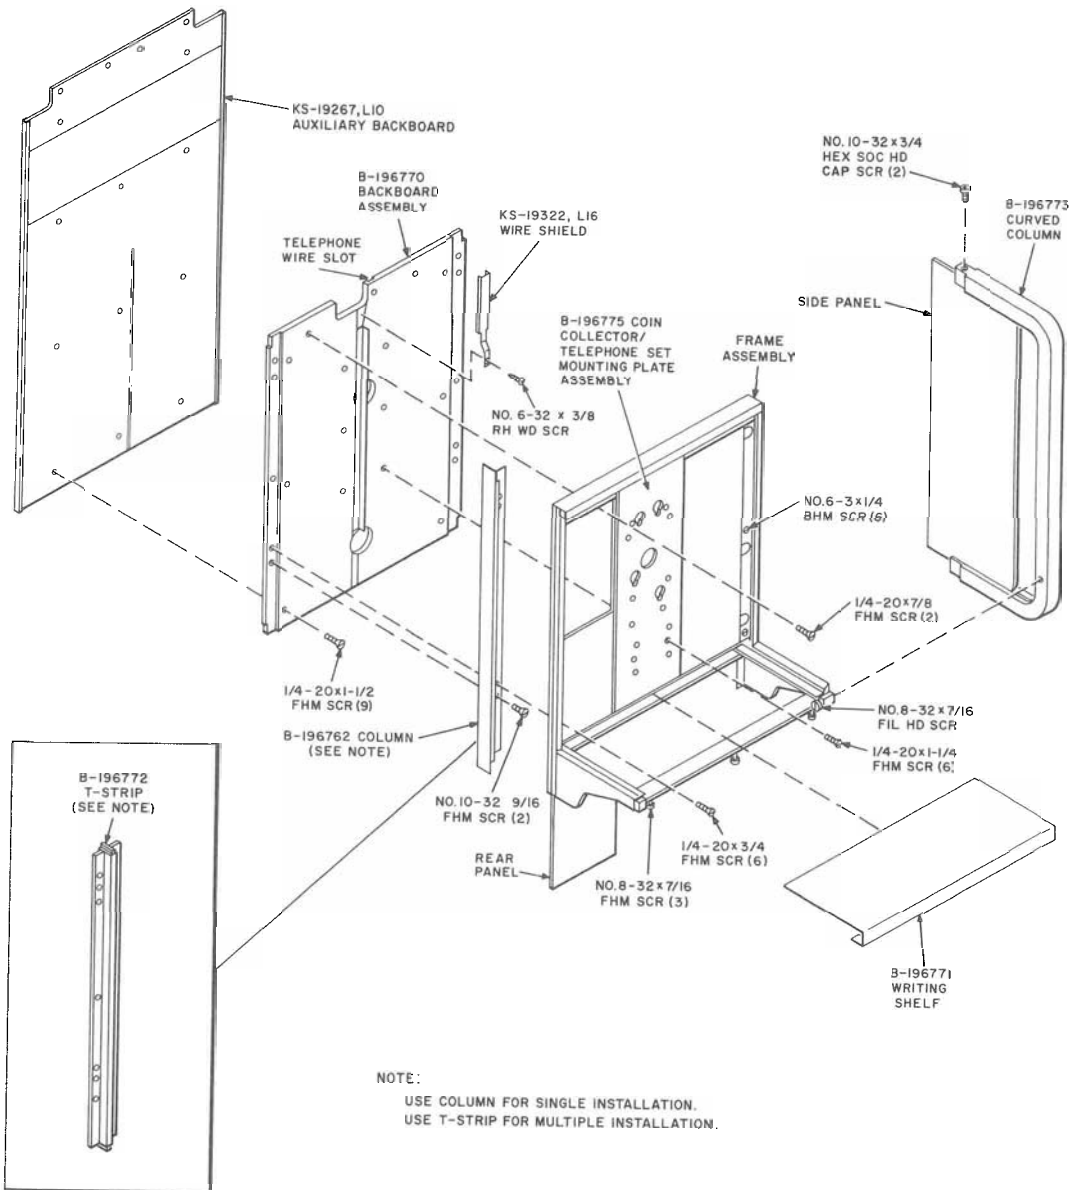

Fig. 7—Assembly of KS-19267 Shelf
3.03 Secure B-196770 backboard assembly to List 10 auxiliary backboard, if applicable, using nine 1/4-20 by 1-1/2 FHM screws (Fig. 7).
3.04 Install KS-19322 sign if applicable and cover exposed electric power cord between sign and shelf with KS-19322, List 16 wire shield (Fig. 7).
Where multiple units are installed, a B-196772 T-strip will be used to join two shelves together. This T-strip will replace the side column. T-strips are furnished as part of KS-19267, List 2 and List 4 shelf assemblies (Fig. 7).
(b) Remove the following per Fig. 7:
- 4.06** Refer to Fig. 7, 8, and 9 and Tables A and B for replacement parts.